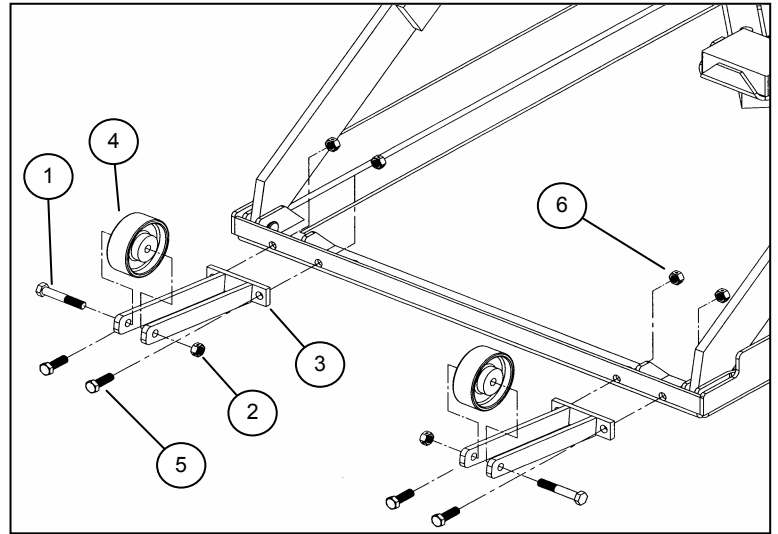

fig.3
Obtain wheels, mounts, and hardware (see fig.3):
Install each wheel (693-110) to the mounts (10504) using (1) Hex Bolt 1/2-13 x 3 (500-122B) and (1) Lock Nut 1/2-13 (84J) per assembly (see fig.3).
Obtain mounting hardware (see fig.3):
Install each wheel assembly to the bottom lift pan using (2) Hex Bolt 1/2-13 x 1-1/2 (83J) and (2) Lock Nut 1/2-13 (84J) per assembly (see fig.3).